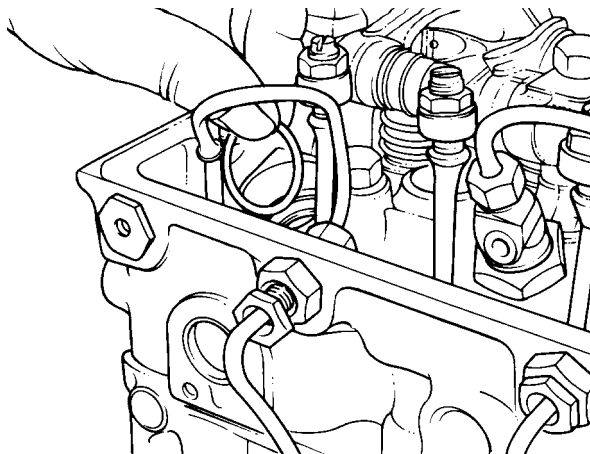

Figure 104 - Protective Sleeve Sealing Ring - Installation
- a. Install a new protective sleeve sealing ring in the cylinder head (Fig 104). Lubricate the sealing ring with Vaseline prior to installation.